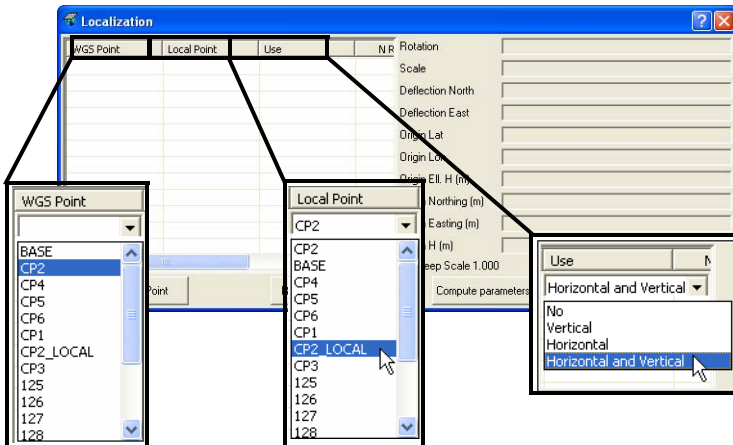

Figure 6-42. Select WGS, Local Point, and Use Data
- Select the following information (Figure 6-42):